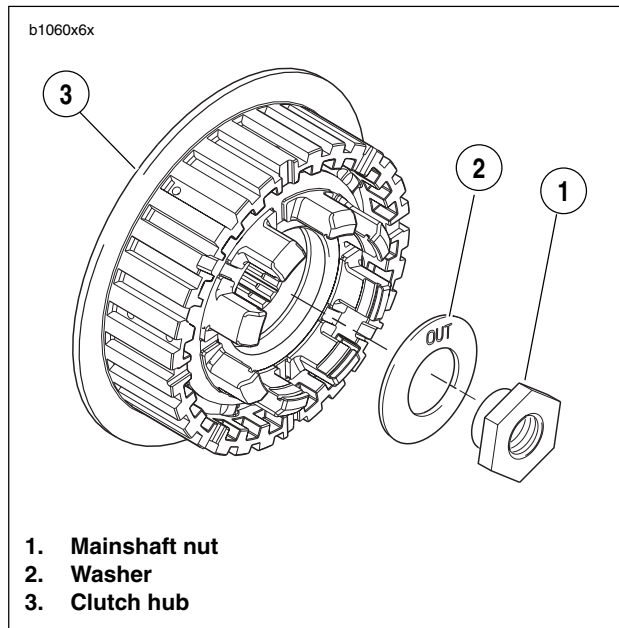

Figure 6-37. Mainshaft Nut and Washer
See Figure 6-37. Washer must be installed with the word “out” facing the mainshaft nut or transmission may be damaged.
4. See Figure 6-37. Install mainshaft nut and washer.